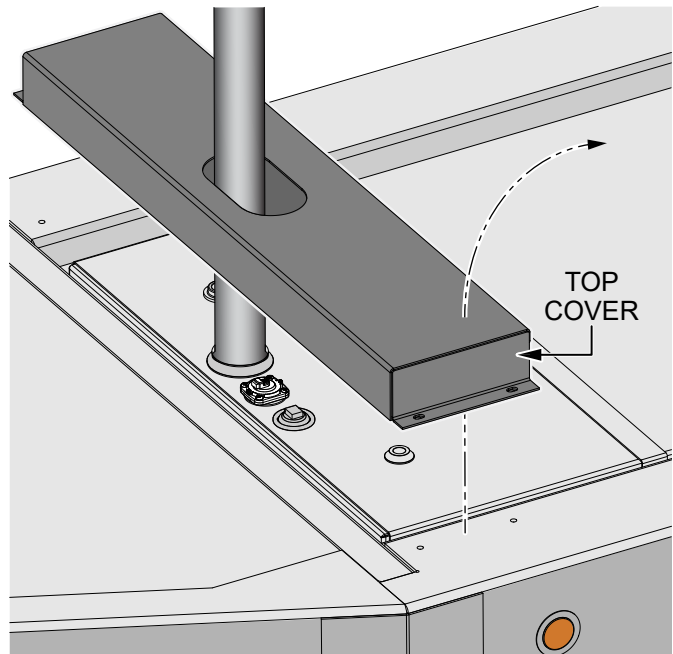

Figure 2. Remove Top Cover
2. Remove the **top cover** (Figure 2) and set it aside for later.